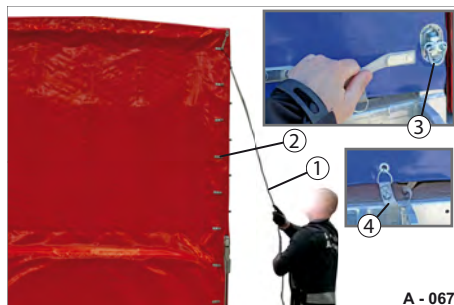

Fig. 71 Locking curtain section
- ▶ Lay the tension rope (Fig. 71/1) in turns around the lugs (Fig. 71/2) from the top downwards.
- ▶ Stow the operating belt (Fig. 71/4) in the trailer interior.